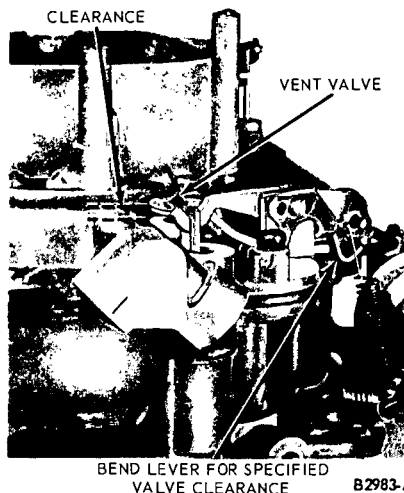

FIG. 38—Fuel Bowl Vent Valve Adjustment—Model 4300 4-V
4. Adjust the vent valve clearance (Fig. 38).
The fuel bowl vent valve (Fig. 38) must be adjusted to the specified clearance. The adjustment can be made with the carburetor on or off the engine.